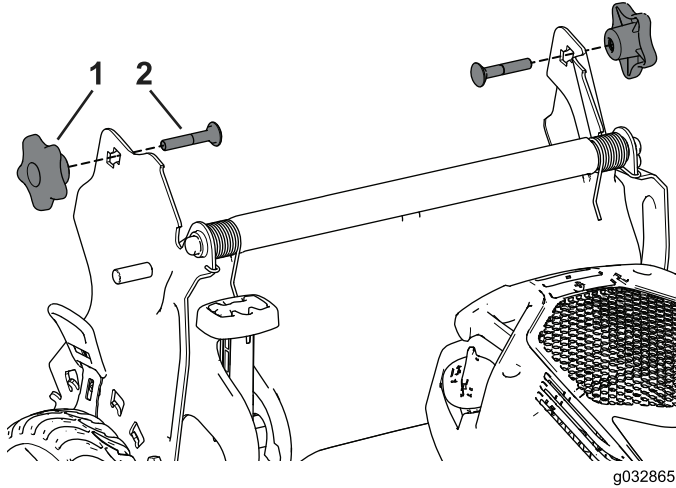

Figure 4
1. Remove and save the 2 handle knobs and 2 carriage bolts from the handle brackets (Figure 4).